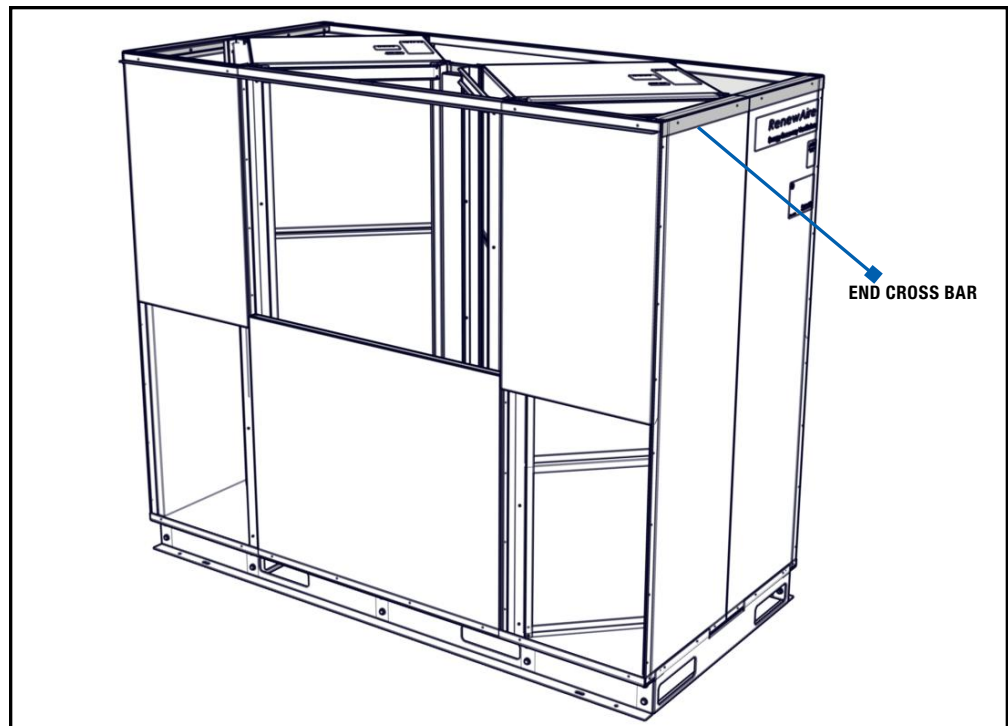

FIGURE 2.2.18 END CROSS BAR INSTALLATION
Attach End Cross Bars to End Panels with (4) #8 self-drilling screws, See Figure 2.2.18.